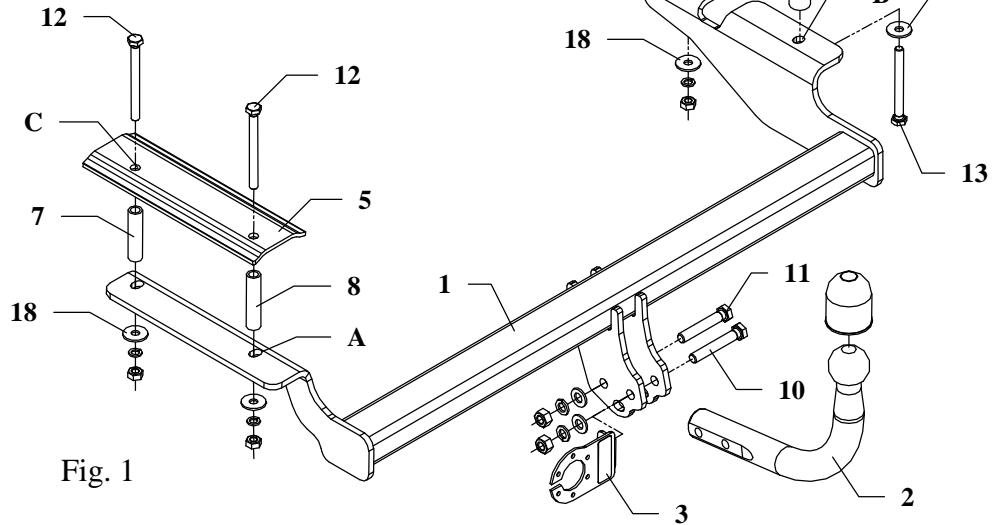
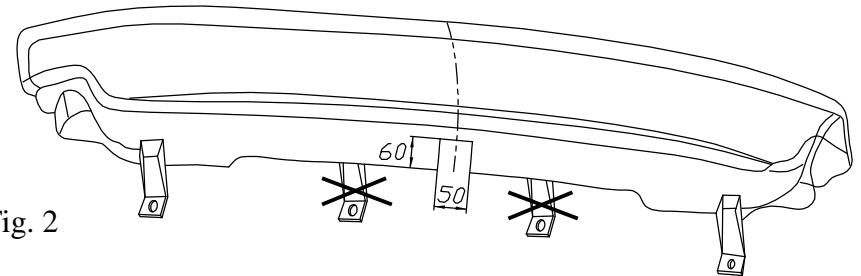

Fig. 1
Fig. 2
1. Disassemble rear lights unit and bumper. Cut out handles of the bumper and saw off fragment in its axis according to figure 2.
4. Underneath the car drill holes A and B into boot using bit $\phi 11\text{mm}$. Inside boot apply fish-plates (pos. 4 and 5). Mark holes C and D. Remove fish-plates and drill marked points C and D by bit $\phi 11\text{mm}$.
7. Into drilled holes put suitable distance sleeves (pos. 6, 7, 8 and 9) as shown in the drawing.
8. Inside boot apply fish-plates (pos. 4 and 5). Put in bolts M10x110mm (pos. 12) and M10x100mm (pos. 13).
9. Underneath the car, on protruding bolts apply main bar of the towbar (pos. 1) and fix as shown in the drawing.
11. Fix tow ball (pos. 2) using bolt M12x75mm (pos. 10) and M12x70mm (pos. 11). With bolt M12x75mm fix also a socket plate (pos. 3). See figure 1.